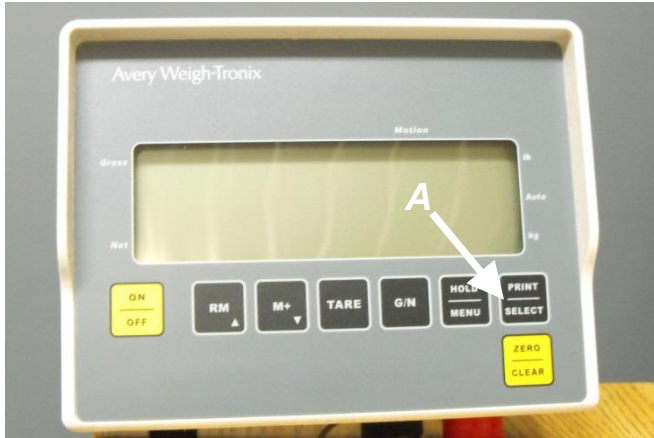

Figure 14
3. If the applicator is equipped with an electronic scale, be sure to press the ZERO / CLEAR key [Figure 14, **A**] before filling the hopper. For more detail, refer to the section of this manual CALIBRATION PROCEDURE.